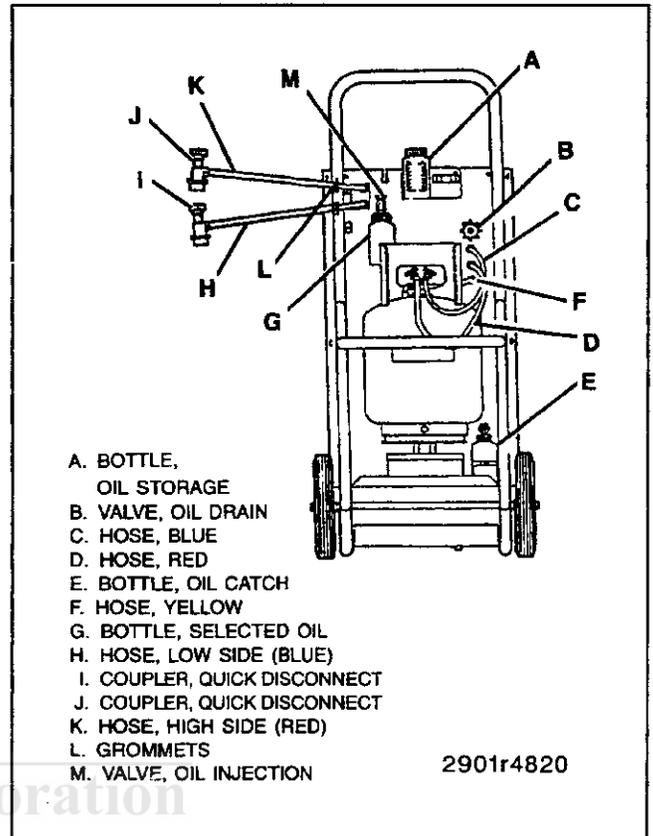

Figure 13—Complete Operational Set-Up
1. Connect high side (Red) and low side (Blue) hoses to the ACR⁴ unit (figure 13). Be sure to route hoses through hose reel bracket grommets.
6. Slowly open the oil drain valve (B) to see if the oil separator contains oil (figure 13).
13. Slowly open the oil drain valve (B) and drain the oil into the calibrated oil catch bottle (E) at the bottom of the unit (figure 13).